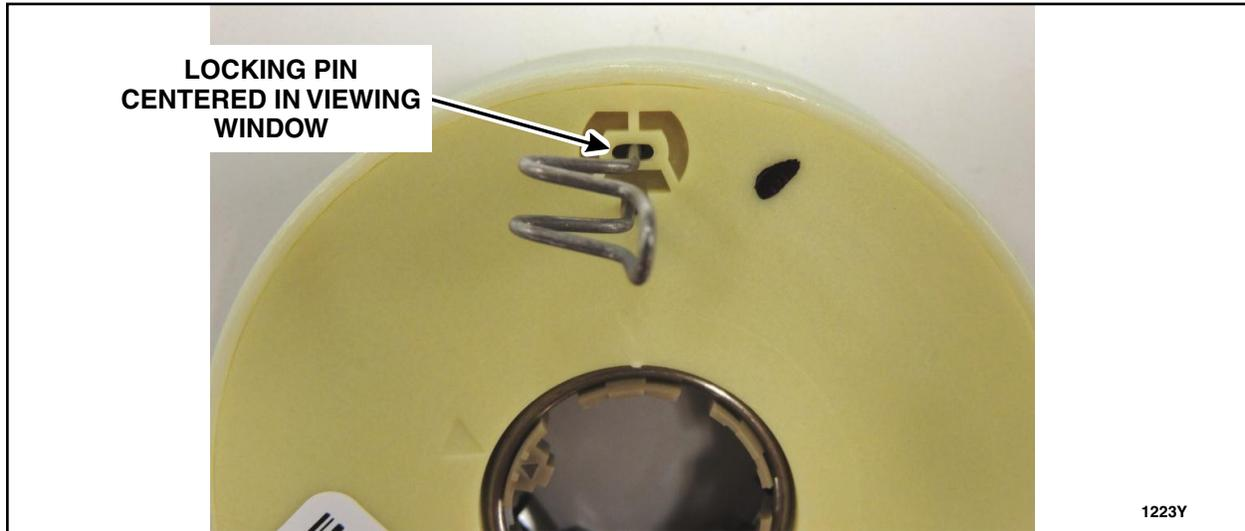

FIGURE 19
25. Ensure the locking pin is not shifted to one side of the sensor viewing window. The optimal position for the locking pin is centered in the viewing window. See Figure 19.